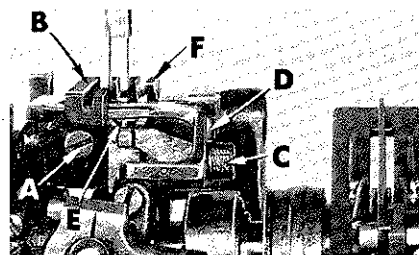
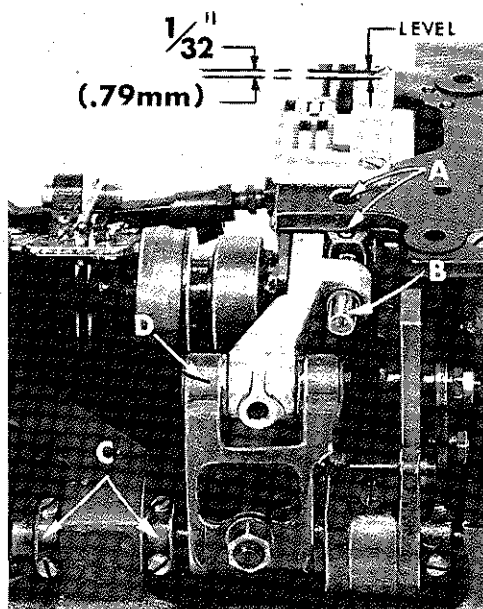
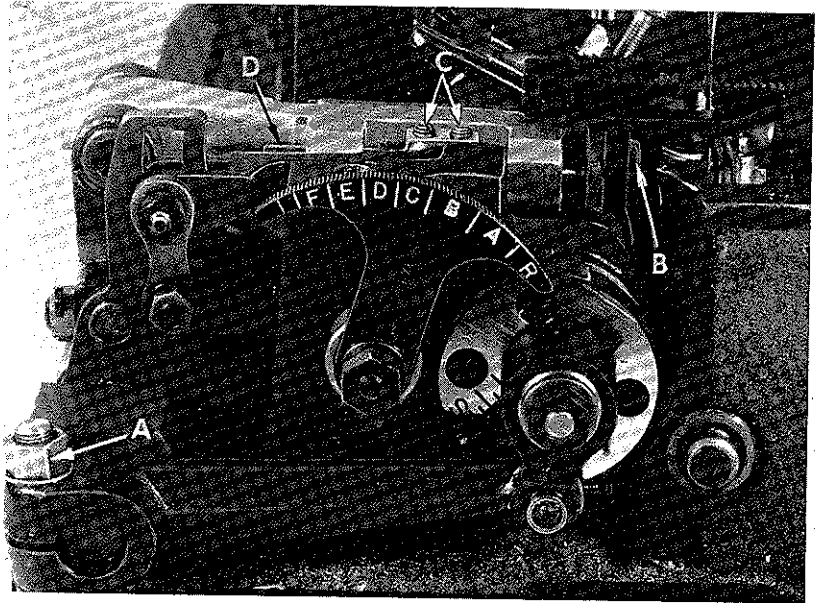

Fig. 9
Fig. 10
Fig. 12
The differential feed dog should be set to rise the depth of a full tooth or approximately $3/64$ inch (1.19mm) above the throat plate at highest point of travel. Adjustment can be made by loosening screw (A, Fig. 9 or B, Fig. 12), raise or lower feed dog (B, Fig. 9) and retighten screw. At maximum feed travel, the feed dog should clear the forward end of throat plate by $1/32$ inch (.79 mm) Fig. 10; also parallel to the top surface of throat plate and centered in throat plate slot across-the-line-of-feed. Adjustments can be made by loosening set screws (A, Fig. 10 or C, Fig. 12), permitting the differential feed bar (B, Fig. 10 or D, Fig. 12), to be moved forward, backward or rotated as needed to acquire the aforementioned conditions. Under extreme circumstances it may be necessary to shift the complete feed mechanism slightly, to the right or left to meet these conditions. This can be done by loosening collars (C, Fig. 10) and moving feed rocker (D); retighten collars and set screws securely. Make sure the feed rocker arm does not bind after making this adjustment.
To raise or lower main feed dog, loosen Allen screw (C, Fig. 9) allowing feed dog holder (D) to be moved. NOTE: Screw (E) must be set to support the main feed dog (F) when specified height is obtained. Retighten screw (C).
of-feed, loosen nut (A, Fig. 12) and move feed rocker forward or backward as needed, retighten nut.